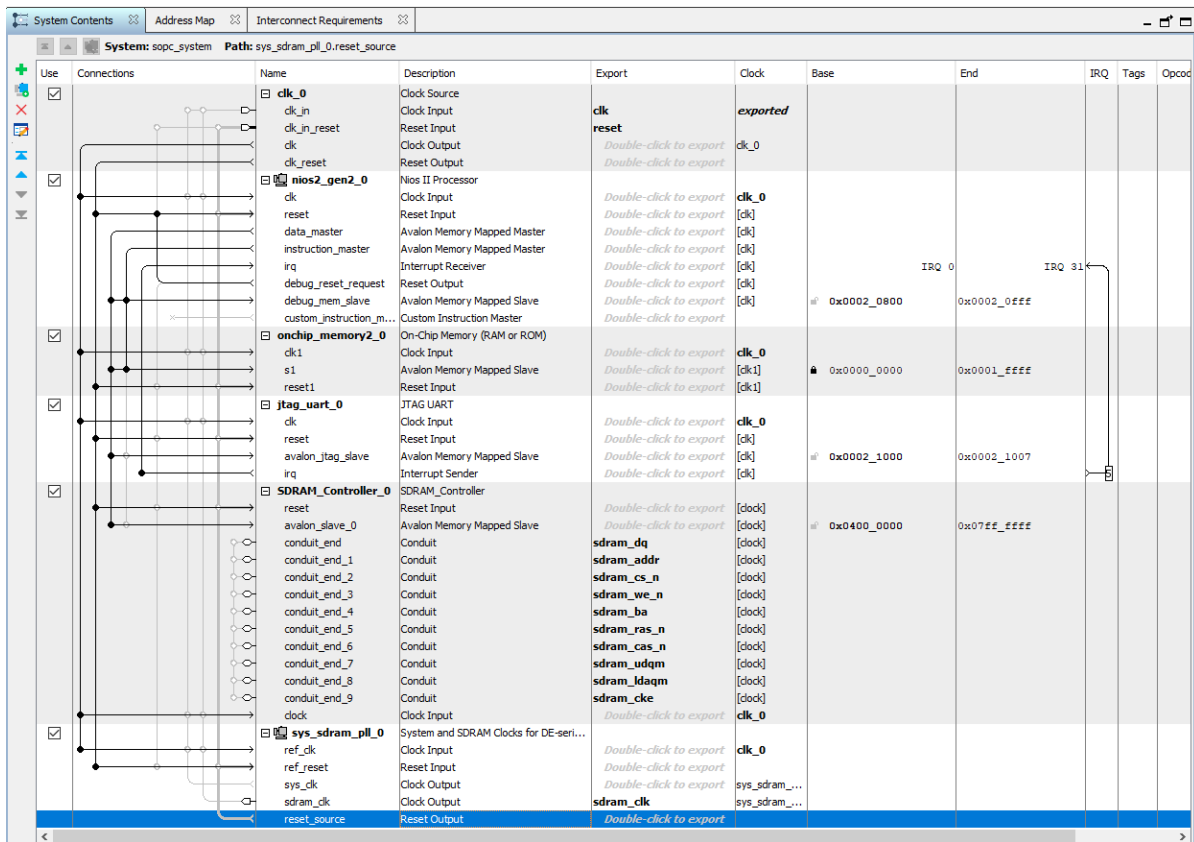

Figure 8: Component Connections, IRQ and Export
10. In the Connection column, make the necessary connections by clicking on the appropriate empty circles to change them to solid circles (Figure 8).
12. In the Export column, export the “sdram_clk” signal of the pll component (Figure 8).